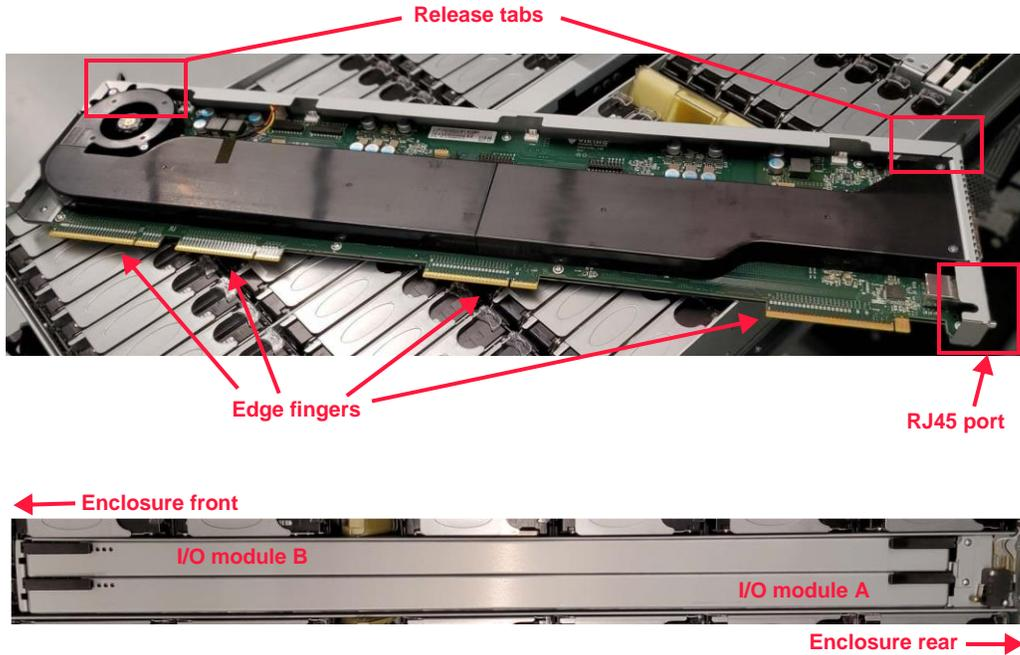

Figure 3.16 IOM orientation
2. Identify the edge fingers on the bottom of the IOM and the connectors inside I/O option slot A. (Slot A is on the right when viewed overhead from the front of the enclosure.) The edge fingers on the IOM must properly mate with the connectors in the I/O option slot. The RJ45 port should be at the bottom upon installation and the release tabs should be at the top as shown in Figure 3.16.